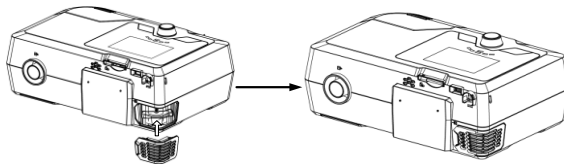

Fig. 11-2
- (2) Install the filter cap containing the air filter to the device, as shown in Fig. 11-2.